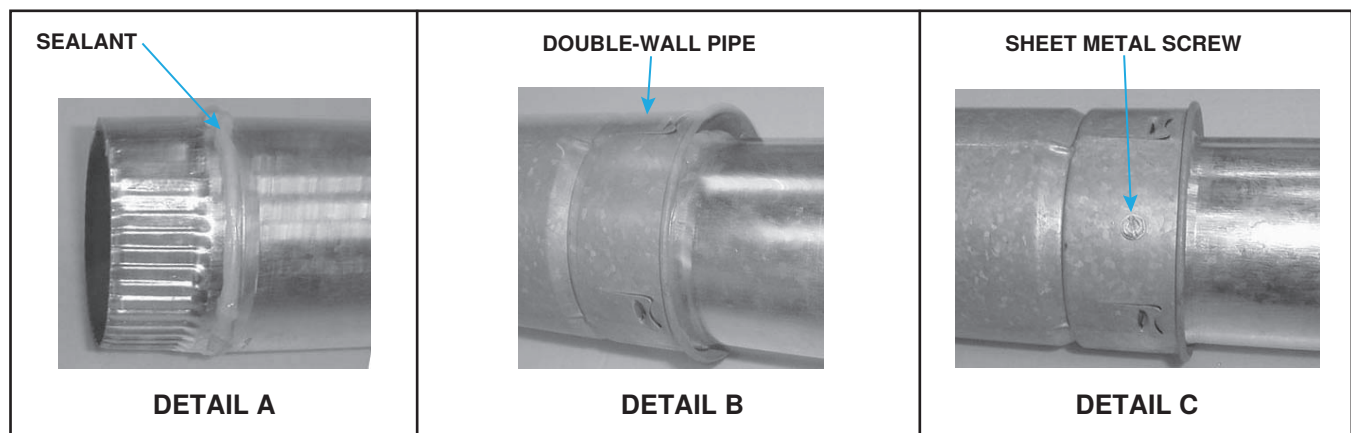

Figure 19. Connecting Double-Wall (Type B) Pipe to Single-Wall or Category III Vent Pipe
- Apply continual 1/4-inch bead of silicone sealant (see Figure 19, DETAIL A) around circumference of pipe.
- Before sealant has any time to dry, insert pipe with sealant into inner wall of double-wall pipe (see Figure 19, DETAIL B) until bead of sealant contacts inner pipe to create sealed joint.
- Drill three small holes—spaced equally around double-wall pipe—below sealant ring (see Figure 19, DETAIL C) and insert 3/4-inch-long sheet metal screws to secure joint. Do not overtighten screws.